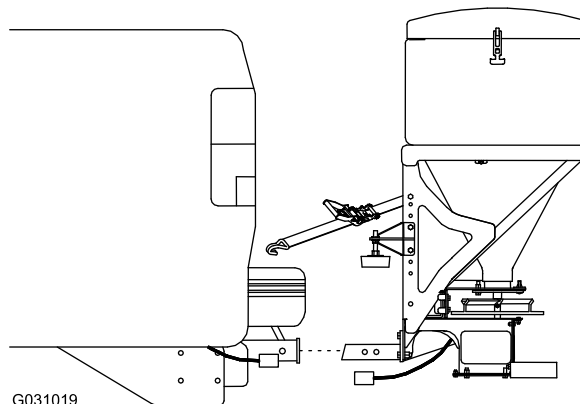

Figure 19
5. Slide the spreader out of the receiver hitch of your vehicle (Figure 19).